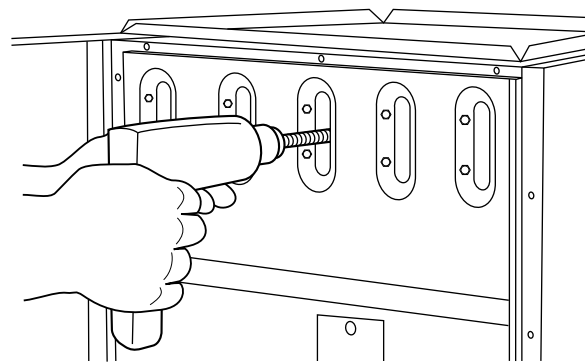

Fig. 53 - Cleaning Heat Exchanger Cell
- (2.) Insert brush end of cable into the outlet opening of cell and slowly rotate with drill. DO NOT force cable. Gradually insert cable into upper pass of cell. (See Fig. 53.)